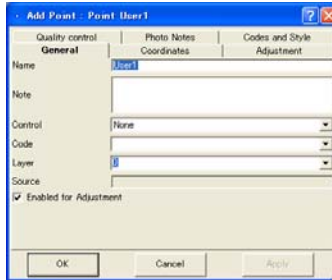
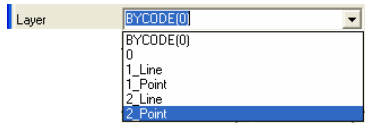

Figure 5-24. Add Point Dialog Box
Figure 5-26. Select Layer for Point
- On the **Add Point** dialog box (Figure 5-24) you can correct the point name (by default “User n” where *n* is the number), the coordinates in the coordinate system set for the current job, enter a code, string, control codes, note and set a control. Click **OK**.
To set the layer for a point (Figure 5-26), select the layer using the *General* tab in the **Add Point** dialog box (Figure 5-24). The